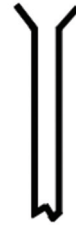

Fig. 2
6. Continue to tighten the flaring press until the end of the tube is flared correctly (Fig. 2).